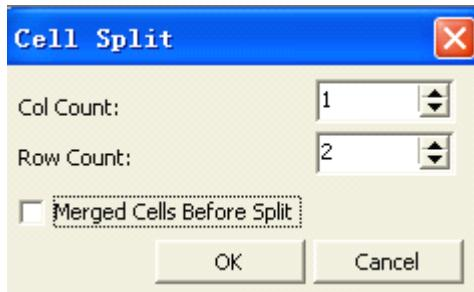

图 4-12
- ◆ Split cells :click this button to popup split cells dialog as shown in figure 4-12, select col or row cont through the dropdown list. Maximum row count is 10.select “merged cells before split” to merge the select cells firstly.